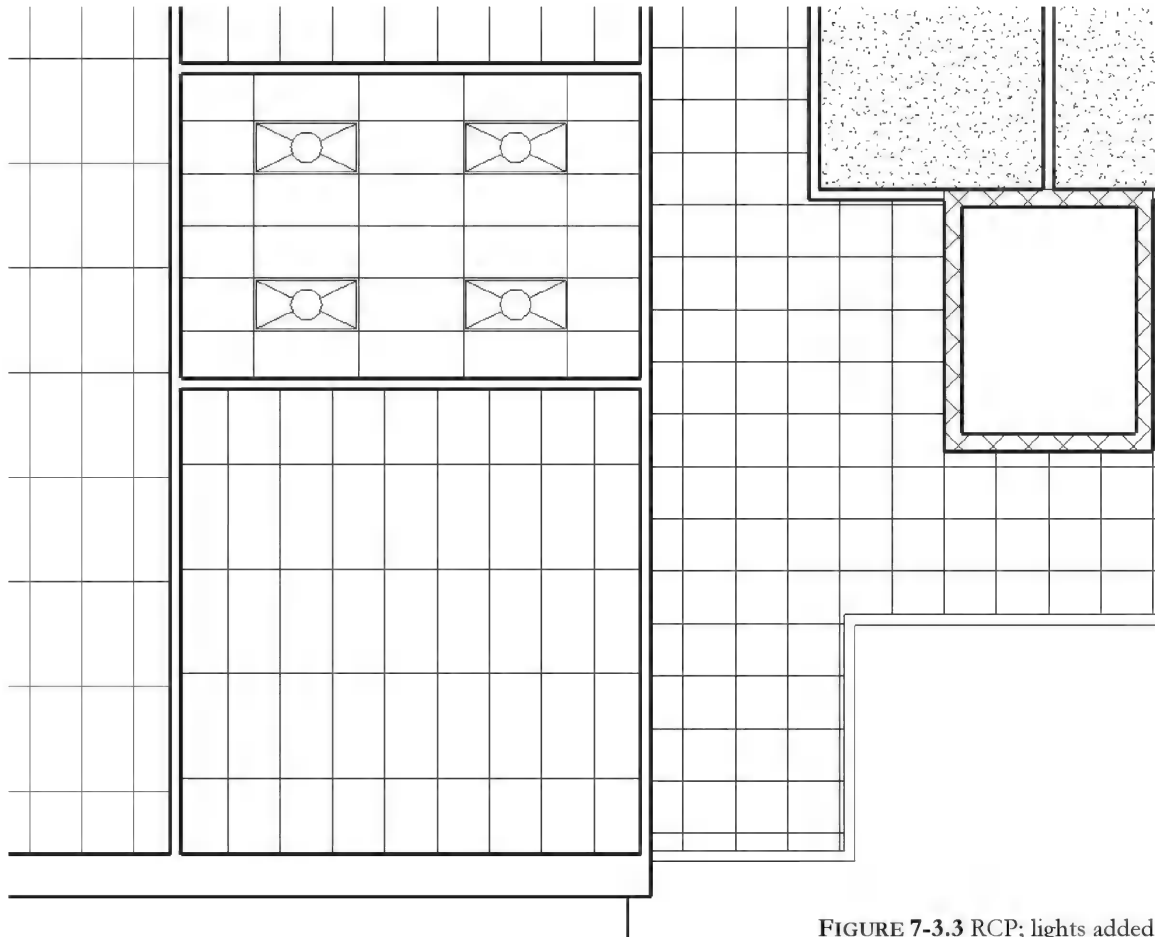

FIGURE 7-3.3 RCP; lights added
7. On **Level 1 RCP**, place fixtures as shown in **Figure 7-3.3**.